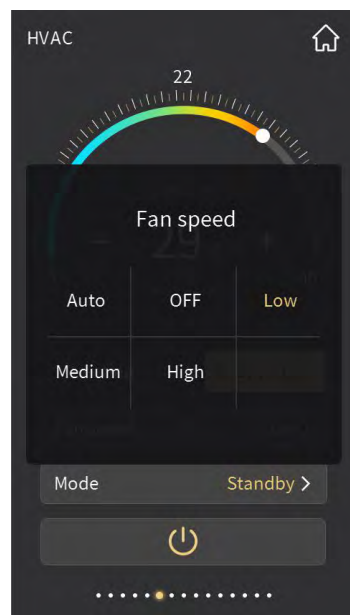

Fig.2.3.3
⑧ Enter the fan speed setting by touching this area, and will pop up a sub-window shown as Fig.2.3.3;